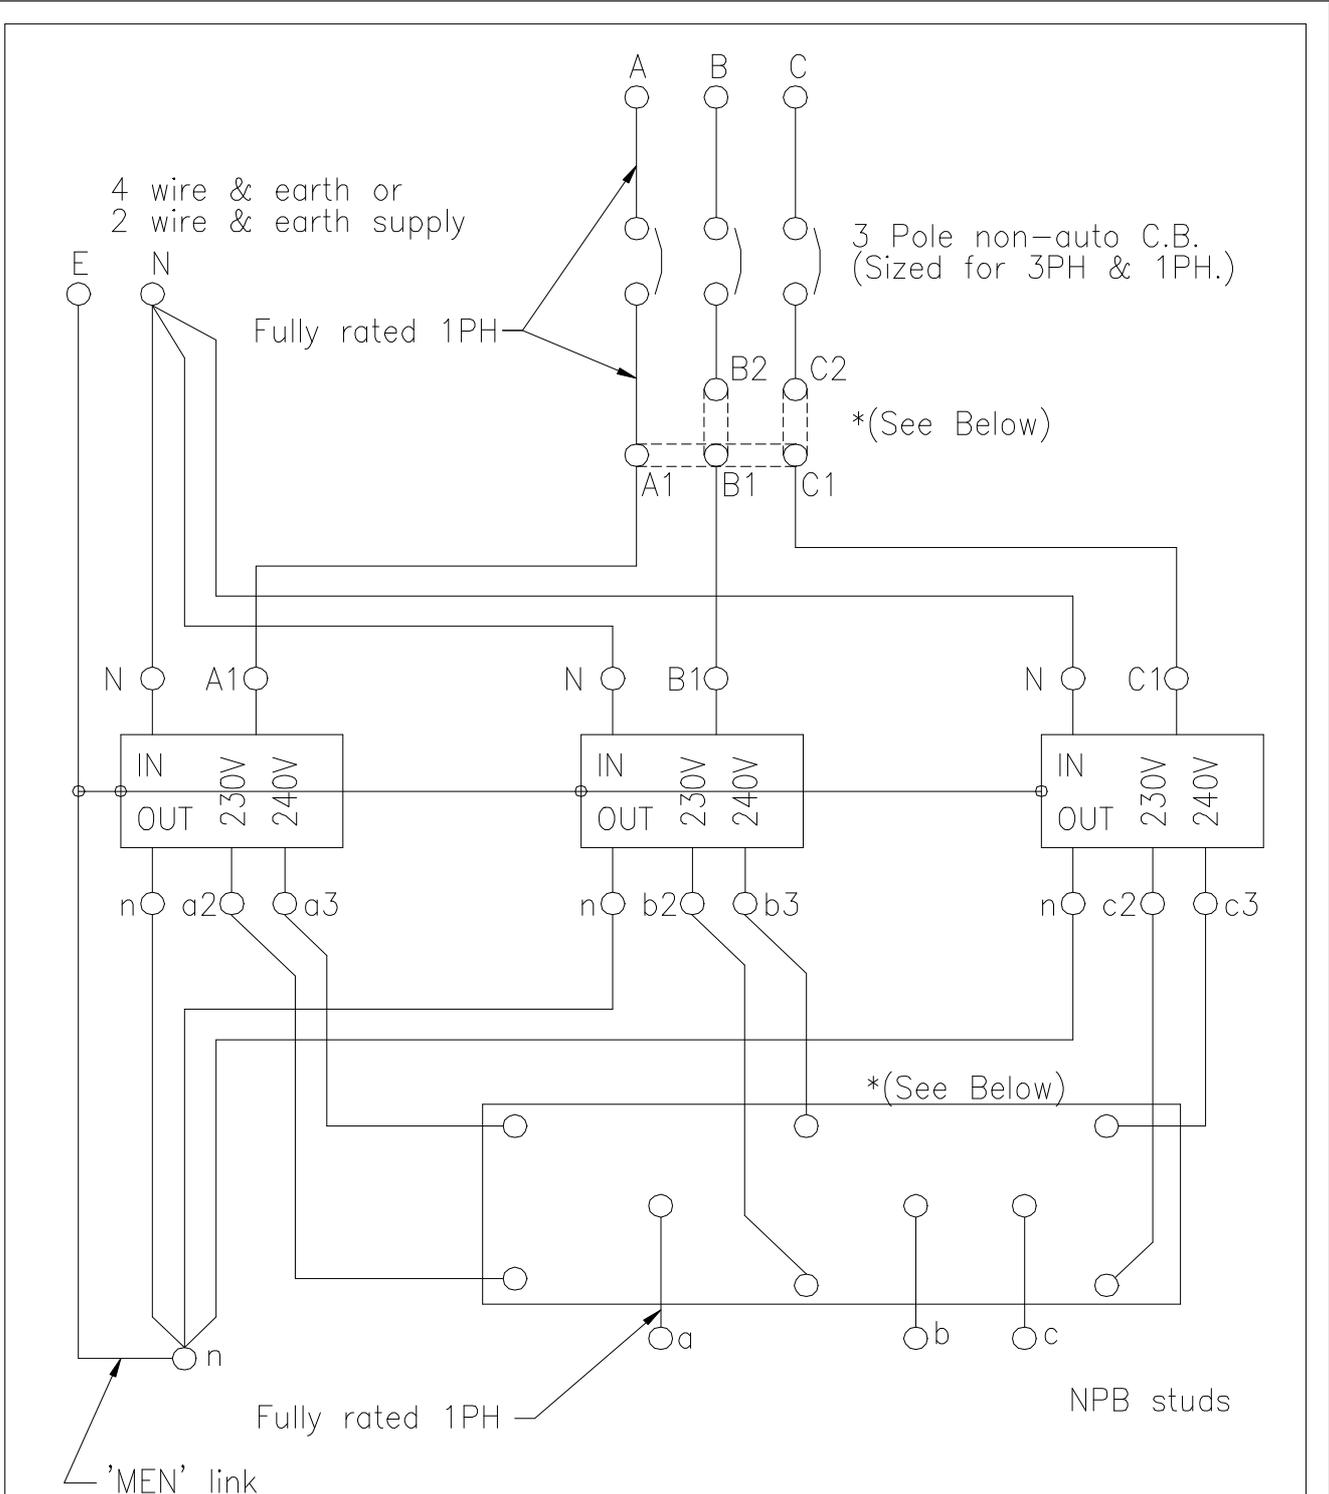

FIG. 3 Typical Schematic Drawing
A typical connection diagram for 1 or 3 Phase (selectable) units is shown in Figure 3. All units are shipped with an appropriate connection diagram mounted near the terminal panel.
7.5kVA to 18kVA Only (\*Refer to Fig 3)